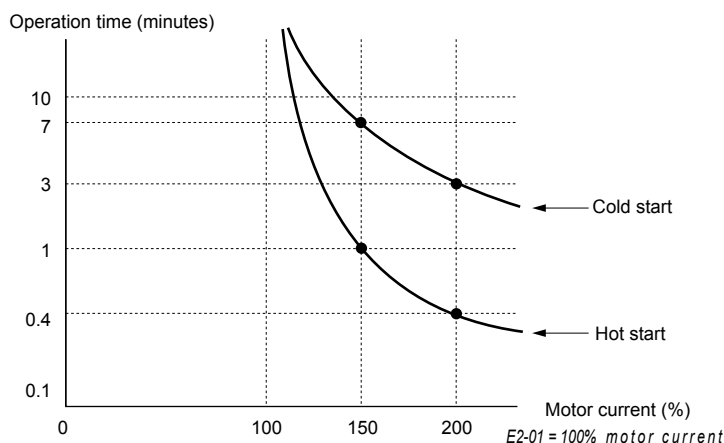

Figure 5.34 Motor Protection Operation Time
- Figure 5.34 shows an example of the electrothermal protection operation time using a general-purpose motor operating at 60 Hz with L1-02 set to one minute.